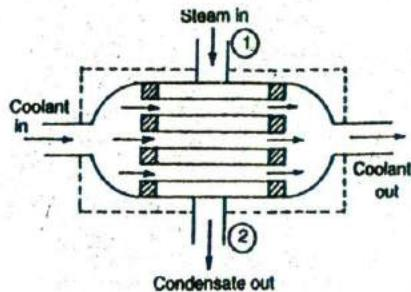

Fig. 3.30. Condenser.
2. *Condenser*. A condenser, as shown in Fig. 3.30, is a device used to condense steam in case of steam power plants using water as the cooling medium, whereas in refrigeration systems, it is used to condense refrigerant vapour using air as the cooling medium. For such a system, there is no change in kinetic and potential energies. Also there is no workdone by the system. In other words,